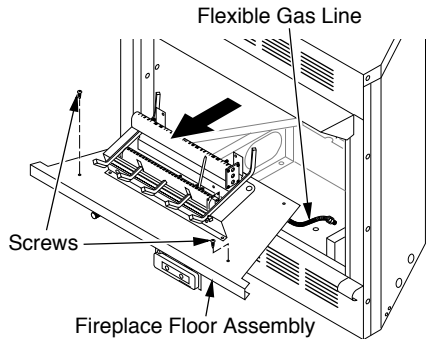

Figure 6 - Removing Fireplace Floor Assembly
3. Remove screws that attach fireplace floor assembly to fireplace. Open lower louver door. Carefully lift up fireplace floor assembly and remove from fireplace, taking care to pull flexible gas line through the access holes (see Figure 6). Note: Be careful of all wires on underside of log base.